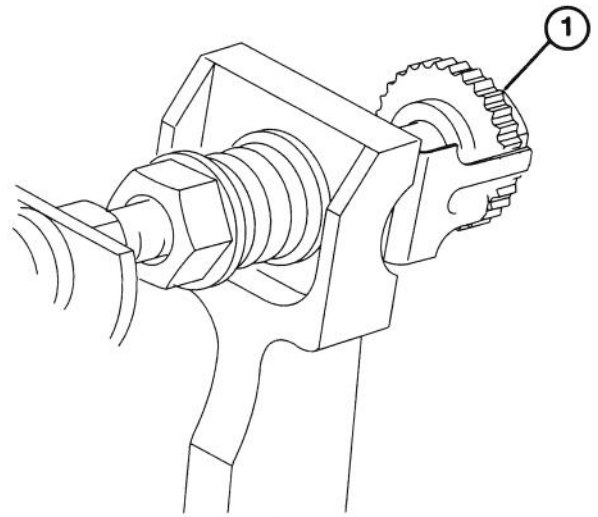

Figure 1
ADJUSTING THE BEDKNIFE TO THE REEL (Fig. 1–3)
1. A 19 mm (3/4 inch) wrench will be needed to rotate the bedknife adjustment knob. Each notch on the knob will move the bedknife .0005 inches (.013 mm) (Fig. 1).